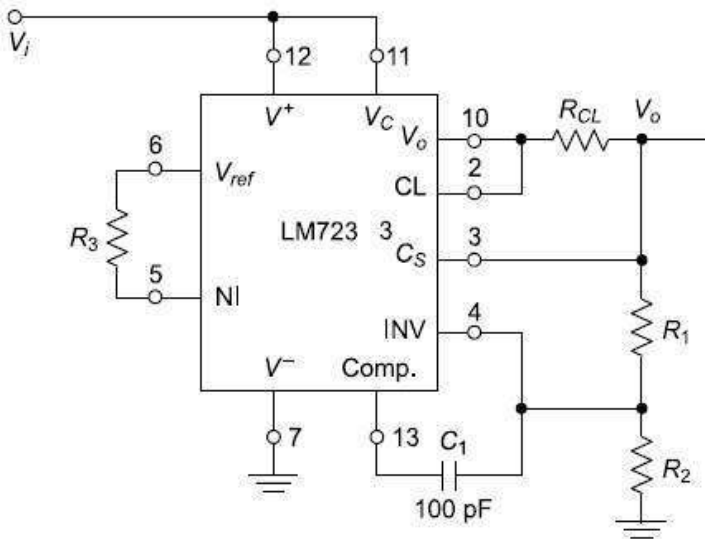

Fig. 8.23 Functional block diagram of a high voltage regulator using IC 723
The IC 723 can be used for designing a high voltage regulator for output voltages ranging from 7V to 37V. The circuit connection diagram is shown in Fig. 8.23. The non-inverting input (NI) terminal is directly connected to V_{ref} through R_3 . The inverting input (INV) terminal is connected to the junction of resistors R_1 and R_2 connected with the output V_o . The resistor R_3 is selected to be equal to $R_1 \parallel R_2$. Then the error amplifier acts as a noninverting amplifier with a voltage gain